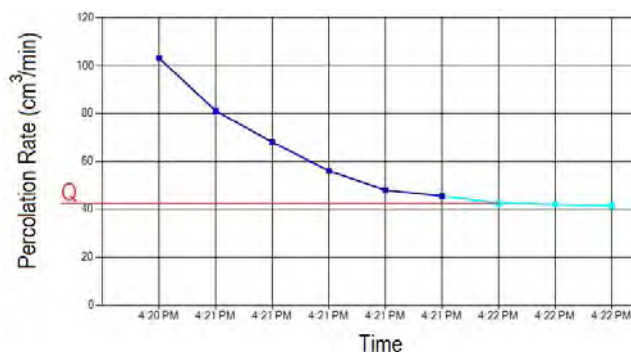

Fig. 29. Soil-water infiltration rate over time and Steady Flow Rate (Q).
**Determine the Steady Flow Rate (Q).** It is established when “Water Consumption Rate” (flow rate) does not change significantly over several consecutive readings. Obviously “Water Consumption Rate” would not be exactly equal between consecutive readings even when a steady flow has been established. Using the Water Consumption Rate graph against time is a useful tool for determining Q. In this graph, the horizontal phase of curve (parallel with time axis) represents the amount of Q. In Table 1, since “Water Consumption Rate” does not change from Reading 10 to Reading 14, we assume that the Steady Flow Rate (Q) is 10 ml/min. Fig. 29 is the graphical presentation of the same data. For converting Q unit from ml/min to gallon/s, it has to be multiplied by 0.000264.